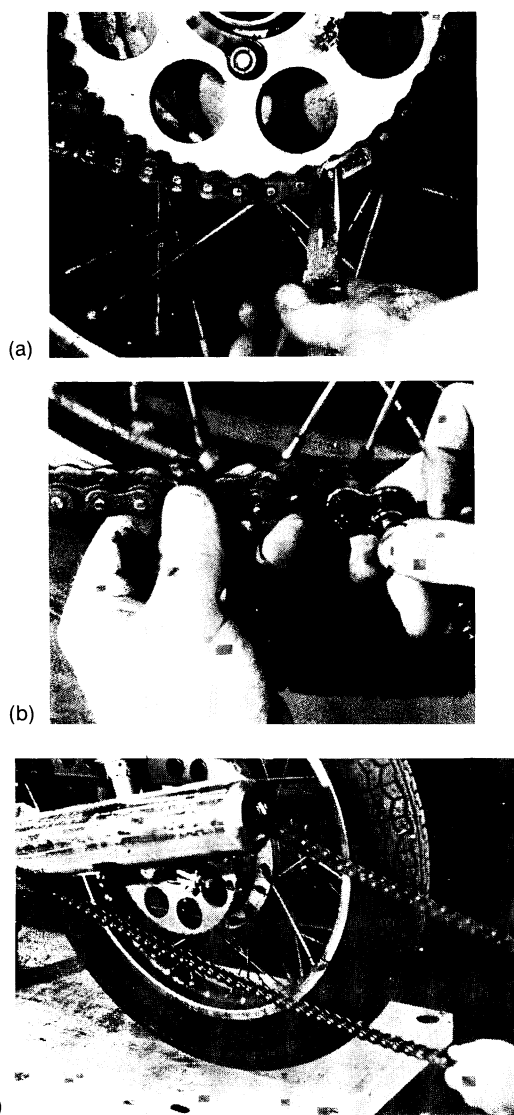

Fig. 19-7 Lubricating the chain with aerosol spray
**Lubrication.** A motorcycle chain should be lubricated with a quality brand chain lubricant everytime the gas tank is filled. Simply prop the machine up on its center stand, rotate the rear wheel, and apply lubricant to the seams between the sideplates and rollers as the chain approaches the sprocket (Fig. 19-7).